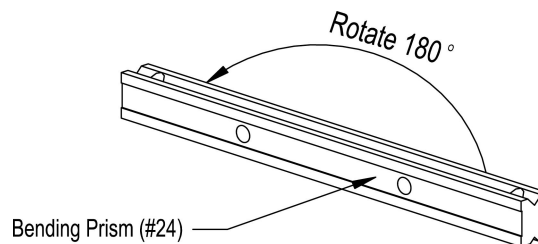

Figure 5 – Rotating the Bending Prism
Step 4: Rotate the BENDING PRISM 180 ° to use the optional radius as shown in Figure 5. Fit the BENDING PRISM back into the groove.